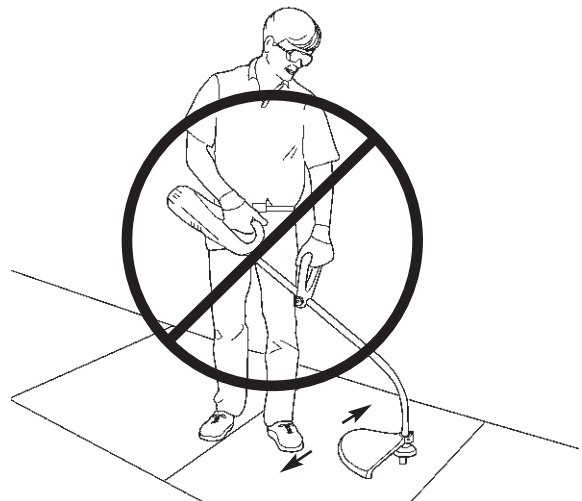

Fig. 7
6. **BALAYAGE - NE PAS UTILISER LE COUPE-HERBE POUR BALAYER.** (Figure 7)